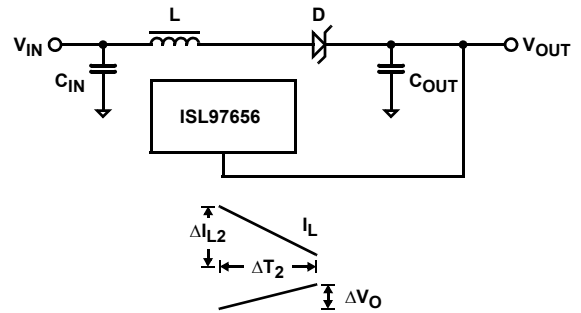

FIGURE 15. BOOST CONVERTER - CYCLE 2, POWER SWITCH OPEN
During the second cycle, the power FET turns off and the Schottky diode is forward biased, (see Figure 15). The energy stored in the inductor is supplied to the output. This energy is used to charge the output capacitor and supply output current. In this cycle switching node (LX) is held to  $V_{OUT}$  + Schottky diode drop. Voltage drop across the inductor is  $V_{IN} - V_{OUT}$  (ignoring diode drop across Schottky diode). The change in inductor current during the second cycle is shown in Equation 2: